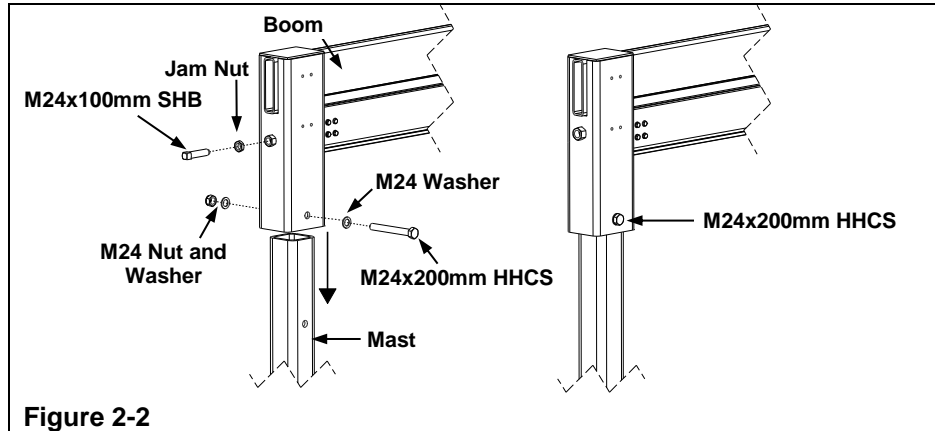

Figure 2-2
- Step 1. Remove M24x200mm HHCS bolt, washers and nut from boom. See Figure 2-2
- Step 2. Remove M24x100mm Square Head Bolt (SHB) and jam nut from boom. See Figure 2-2
- Step 3. Lower boom carefully onto mast and align holes. See Figure 2-2
- Step 4. Secure boom to mast with M24x200mm HHCS bolt, washers and nut. See Figure 2-2.